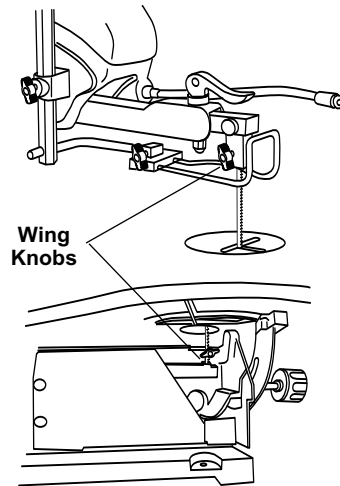

Figure 9. Changing Blades
2. Open easy access door and loosen the blade wing knob on the upper and lower blade holders (Figure 9). Remove blade from the upper and lower blade holders by pulling forward on blade and then lifting the blade through the access hole in the table. Slight downward pressure may be necessary on the upper arm.
NOTE: In order to cut, and avoid uncontrollable lifting of the workpiece, the teeth of the blade used on the Scroll Station should always point downward as shown in (Figure 9) when installed.